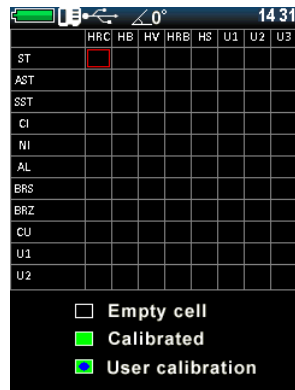

Figure 2.28 - Selecting a cell for calibration
2. Use the navigation keys to select the cell to be calibrated, for example, HRC for steel (Figure 2.28).